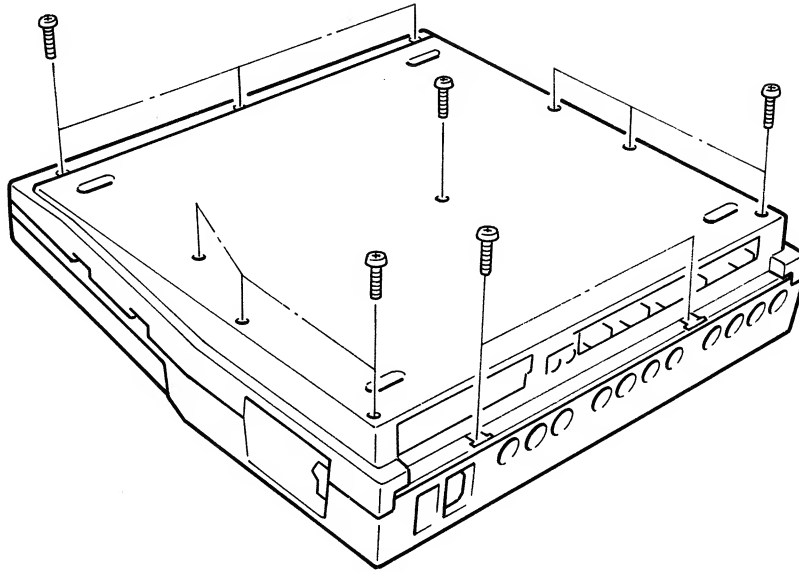

Fig. 1
2. Remove the twelve screws from the lower case. (See Fig. 1.)